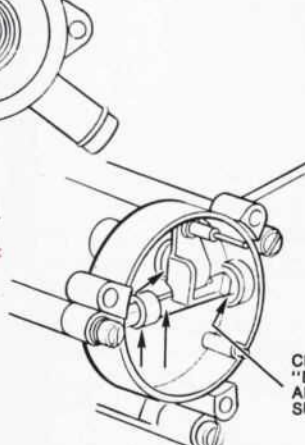

FIGURE 5:
- Choke modulator "D" washer and bearing surfaces (Figure 5)